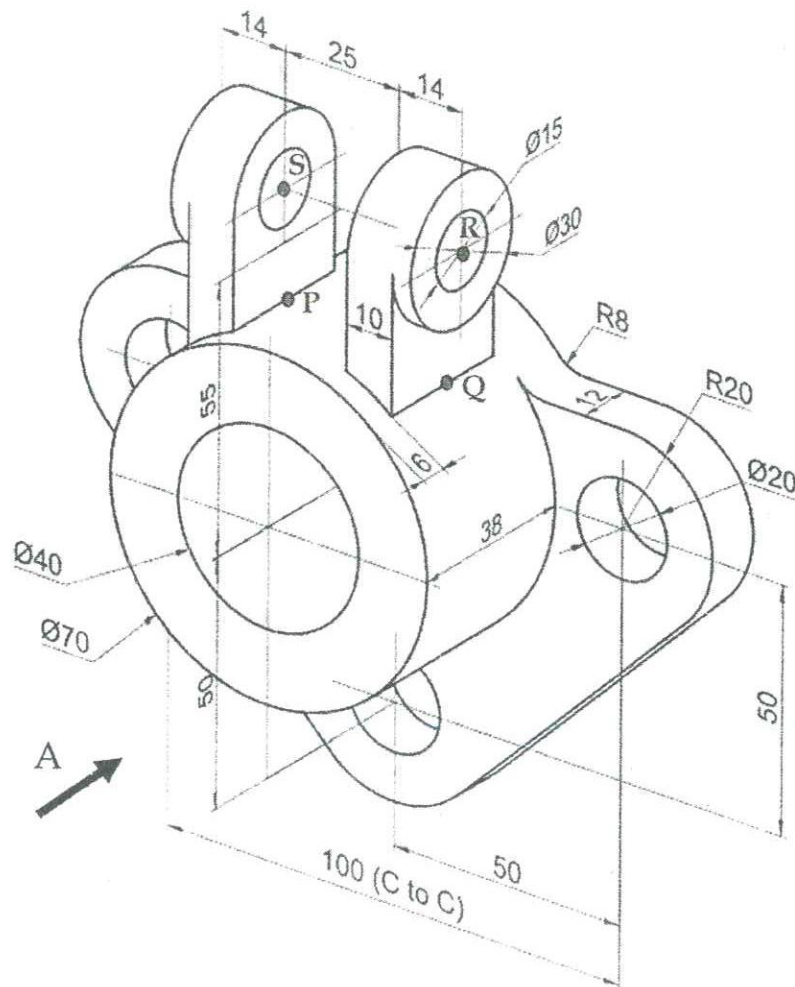

Figure Q1
- Q1. With reference to the object shown in **Figure Q1**, using the **Third Angle** projection, and using an appropriate **scale**, draw the **Sectional Front View** in the direction of **arrow A**, by sectioning the object across a vertical sectioning plane which goes through the points **P**, **Q**, **R** and **S**. Also, add a geometrical tolerance and a dimensional tolerance, where appropriate.